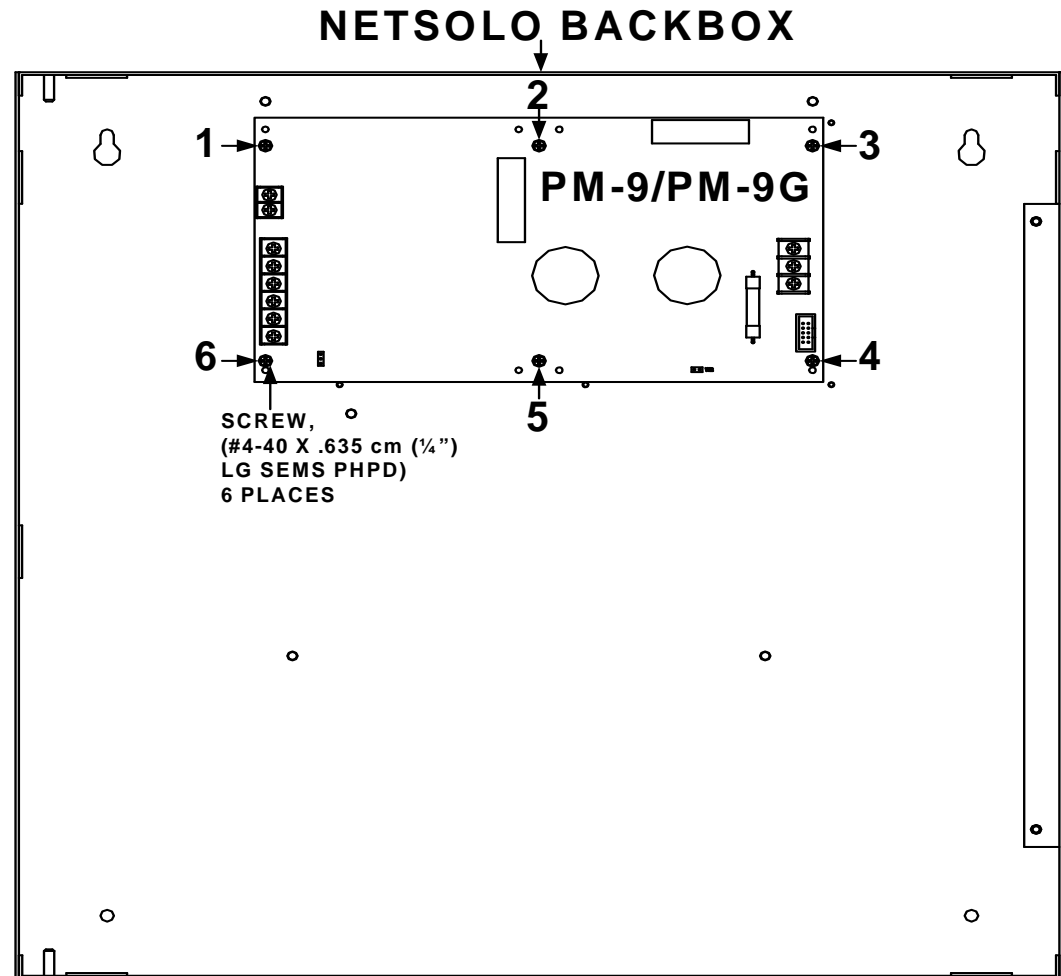

Figure 2.8.2.1 PM-9/PM-9G Sub-Assembly to Backbox Installation
1. Mount the PM-9/PM-9G sub-assembly on the PEM standoffs in the backbox and secure with six (6), (#4-40 x 1/4" (.635 cm) LG SEMS) screws as shown in Locations 1 thru 6 in Figure 2.8.2.1.